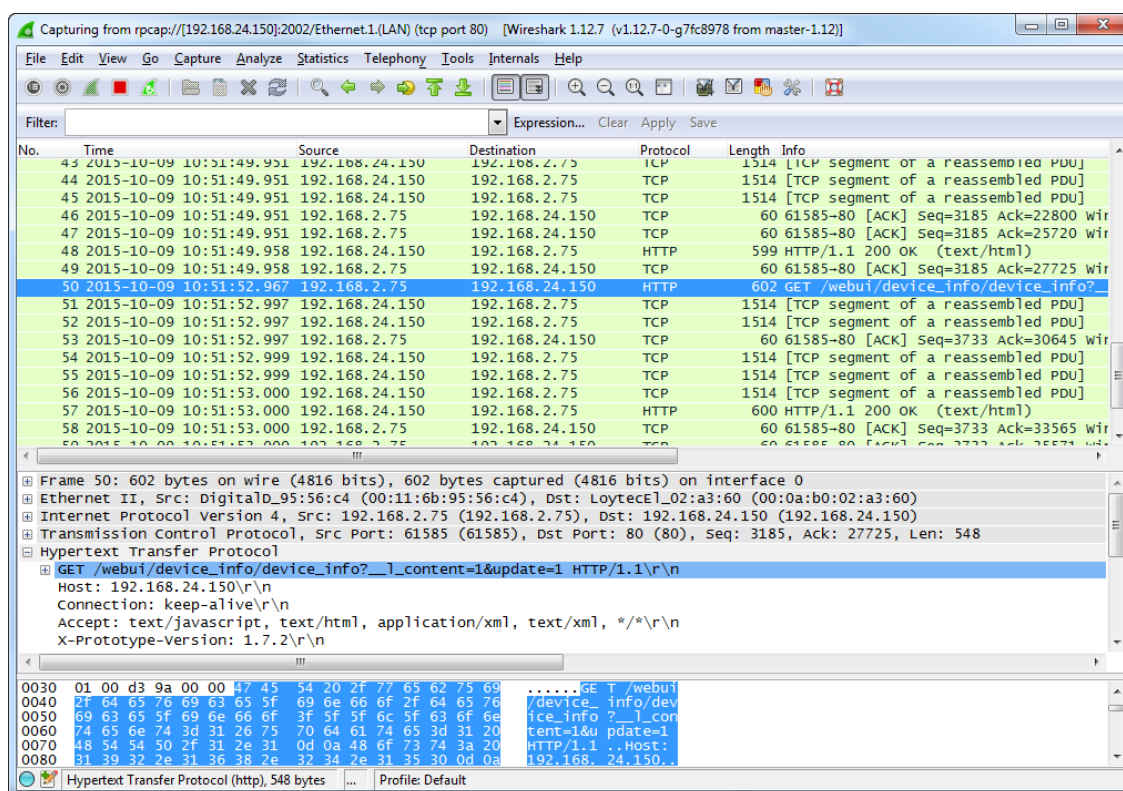

Figure 172: Example Ethernet remote capture in progress.
3. Wireshark will attempt to establish a connection to the device and, if successful, start displaying packets. An example capture is shown in Figure 172.